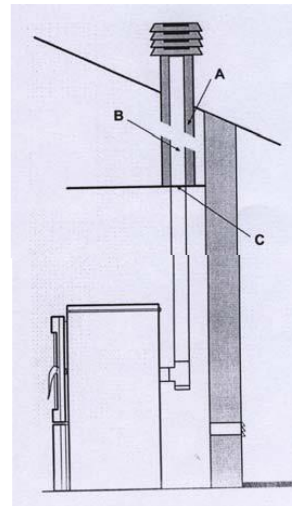

Figure 5
- Avoid contact with material that burns easily (such as wooden beams), and in all cases they should be isolated with anti-fire material (see Figure 5).